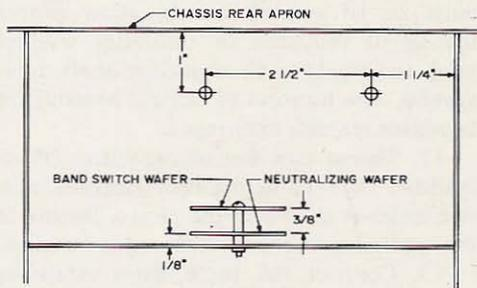

Fig. 2. Position of switch decks.
17. Refer to Fig. 2 and drill the two holes required to relocate the tank coil in its new position.